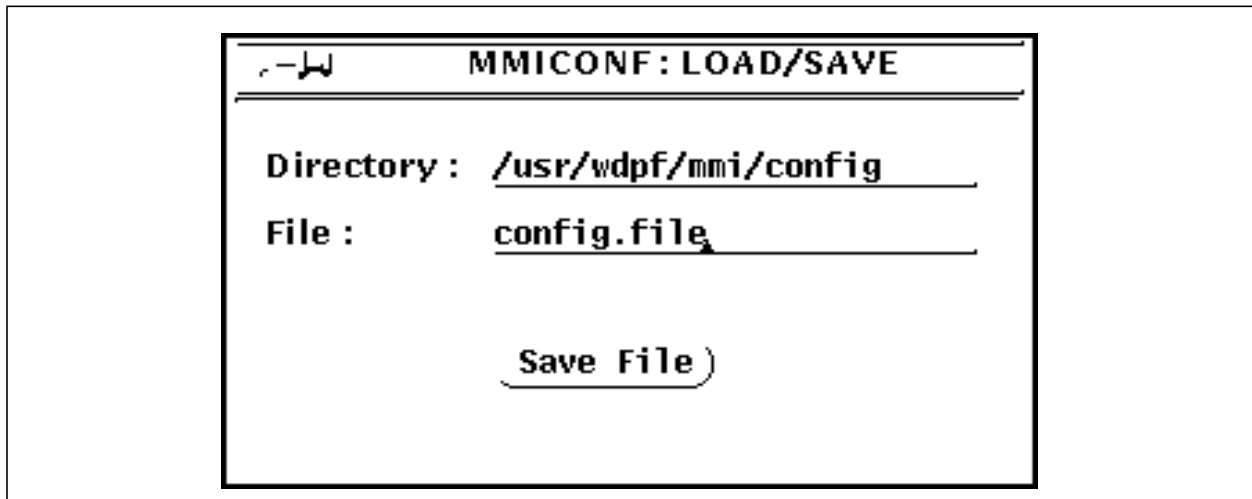

Figure 3-15. SAVE Window
8. Select the **Save** button from the **File** pulldown menu (shown in Figure 3-13) to display the window as shown in Figure 3-15.